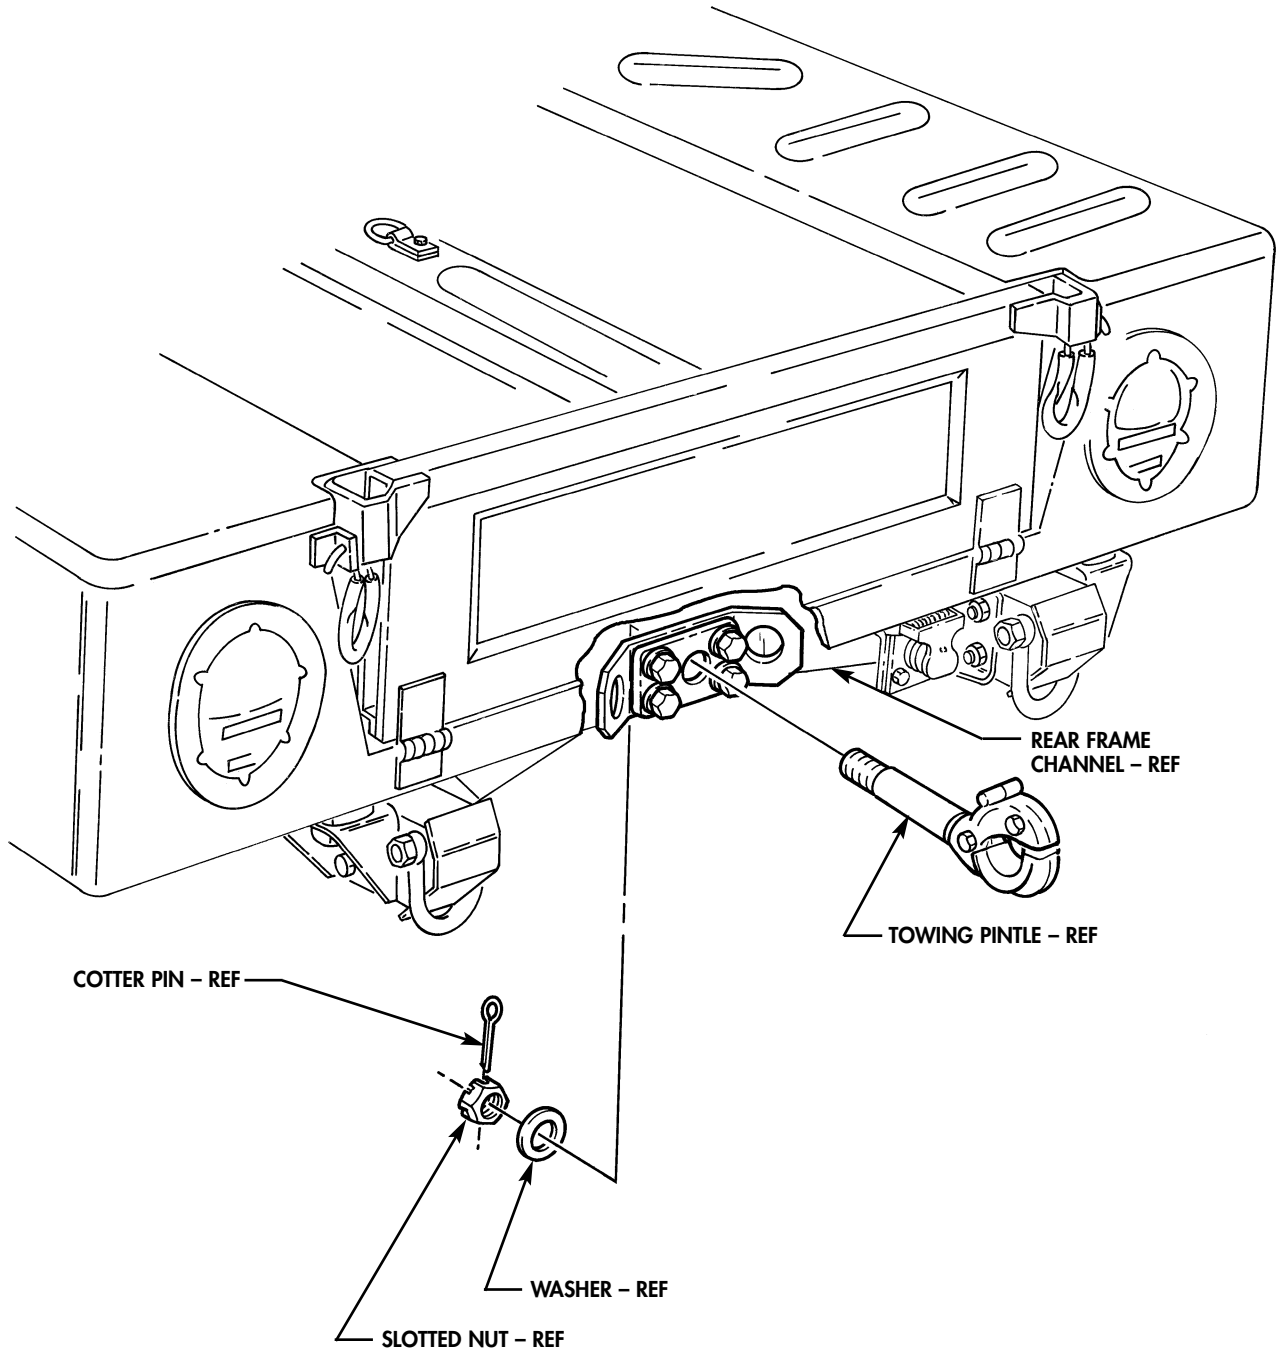

FIGURE 1
- (1) Park vehicle and apply parking brake lever. (Refer to TM 9-2320-280-10.)
- (2) Remove pioneer tool stowage tray mounting bracket. (Refer to TM 9-2320-280-20.)
- (3) Remove tools from pioneer tool stowage tray. (Refer to TM 9-2320-280-10.)
- (4) Remove cotter pin, slotted nut, washer, and towing pintle from rear frame channel as shown in figure 1. Discard cotter pin.